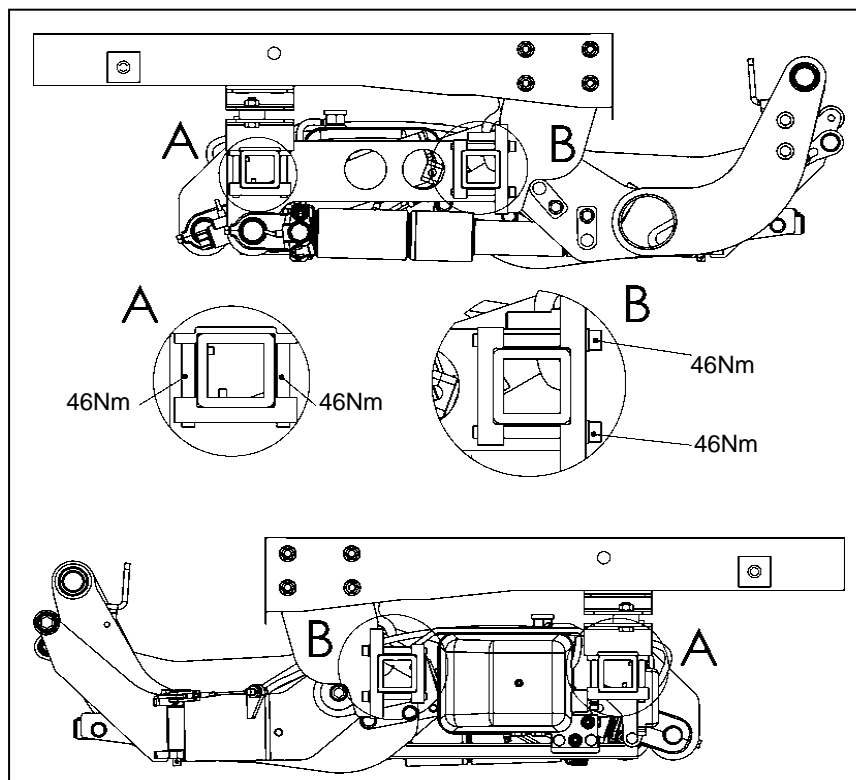

Figure 35
- Secure the installation adapters to the lifting gear and tighten to the specified torque of 46 Nm (refer to torque table on page 67 and Fig. 35). The layout of the axles is symmetric, so please follow the same process on the other side as well.